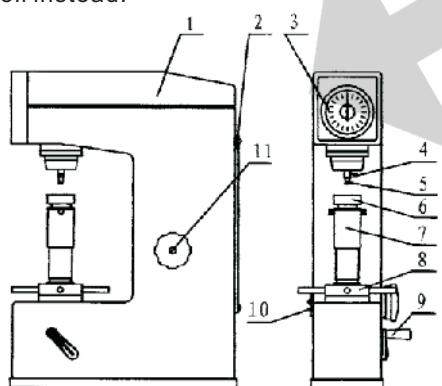
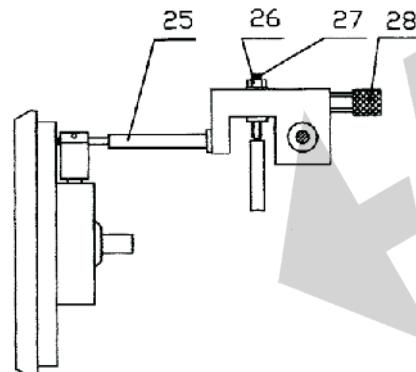

Figure 2
Figure 5
3 After the hardness tester is properly placed (see figure 2), remove the top cover (1). Untie the fastening white gauze tape on the extension rod (25, figure 5), then promptly replace the top cover to prevent dust from coming into the tester. Open the rear cover (2) and remove the white gauze tape on moveable parts. Wipe off the anti-rust oil on the lifting screw and apply some thin lubricating oil instead.
③ Adjustment of the hardness value display (figure 5).The accuracy of the tester is calibrated at factory. If any error is caused by improper handling during transportation, operator can make adequate adjustment but in prior to do that he shall thoroughly understand the structure and working principle of the tester apparatus. The procedure is as following: Remove the top cover. If displayed value is lower than the actual hardness of standard block, loosen M4 nut (26) and slightly turn in screw (28) clockwise, then tighten the nut and make the test again until the displayed value falls in the specified tolerance. If displayed value is higher, turn the screw counterclockwise.